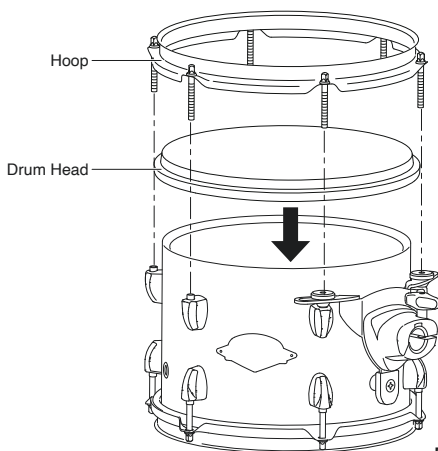

Fig.7
7. Attach the Batter Side Drum Head and Hoop to the drum in the order shown (Fig.7).